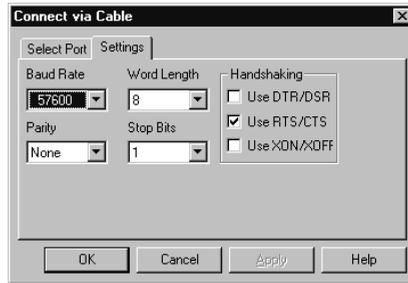
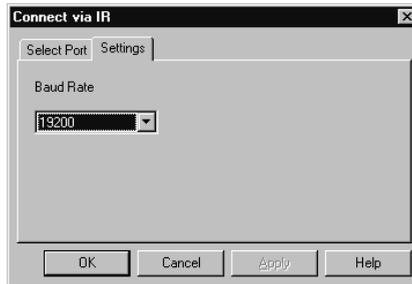

Figure 4.3. Connect via Cable - Setting Tab
Figure 4.4. Connect via IR - Setting Tab
5. Switch to the **Setting** tab, Figure 4.3 and Figure 4.4.